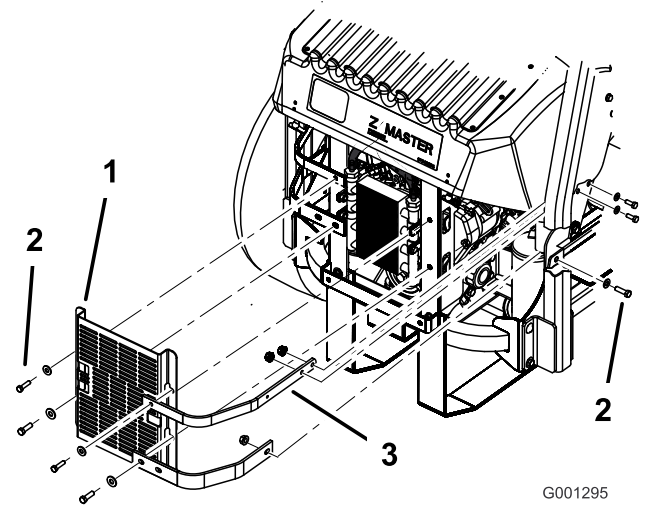

Figure 66
3. Remove the 4 bolts holding the oil cooler shield to the rear frame (Figure 66).
4. Remove the 3 bolts holding the engine straps to the side of the machine (Figure 66).
12. Install the oil cooler shield and engine straps to the rear frame with the 4 bolts previously removed (Figure 66).
13. Install the engine straps to the side of the machine (Figure 66).